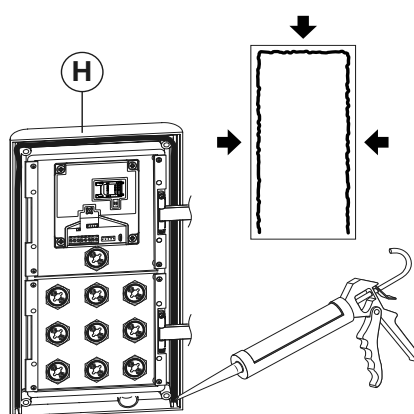

Fig. 67
**In order to prevent water ingress it is highly recommended that a silicon sealant is used between the module support frame (H) and the flush box. The silicon sealant should be used on the left, top and right sides only of the module support frame. Don't use silicon sealant on the bottom side of the module support frame (H) (Fig.67);**